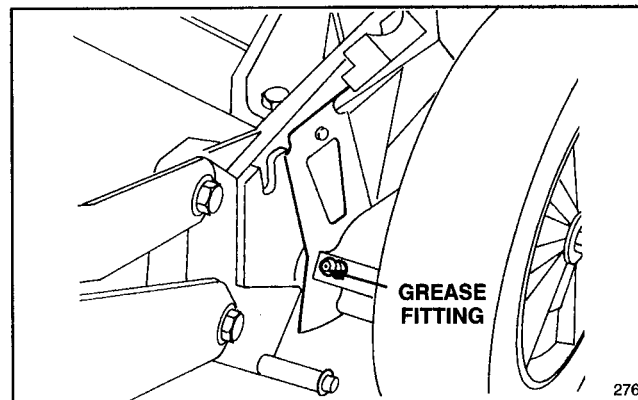

Figure 24
2. SELF-PROPELLED MODELS ONLY—Move rear wheel height-of-cut levers to “C” setting. Wipe grease fittings with clean rag (Fig. 24). Install grease gun onto fitting and gently apply 1 or 2 pumps of #2 Multi-purpose Lithium Base Grease. Excess pressure may damage seals.